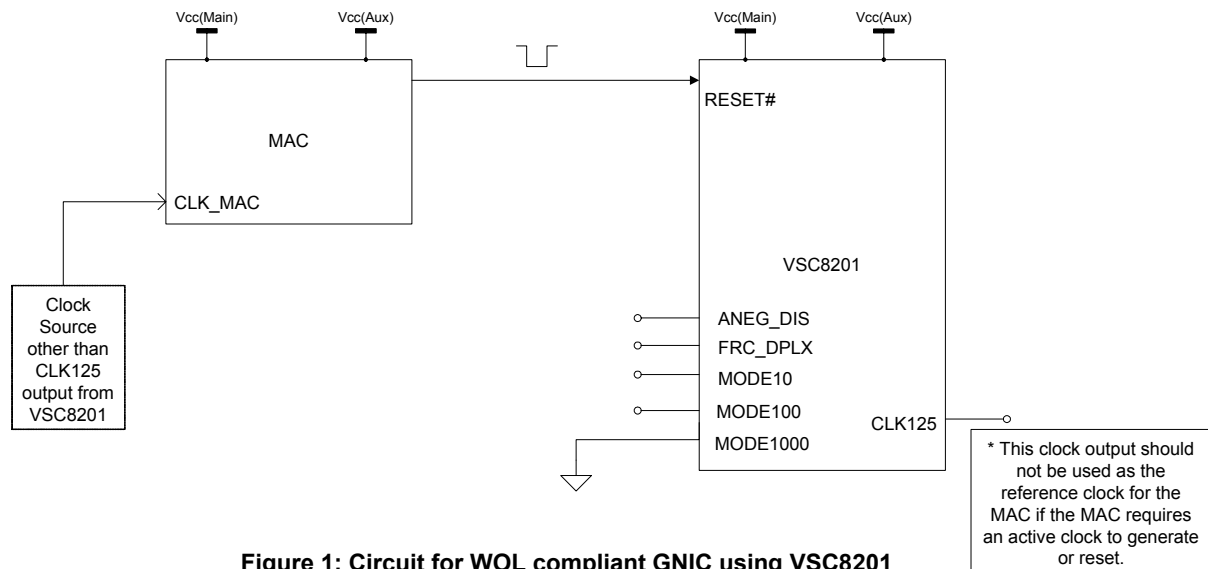

Figure 1: Circuit for WOL compliant GNIC using VSC8201
- Abnormal shutdown - In this case the main power Vcc (Main) is lost suddenly and driver does not configure the VSC8201 in 10/100BASE-T operating mode by writing to the MII registers of the VSC8201. It is assumed that on sudden loss of Vcc (Main) the MAC will reset the VSC8201 by driving a pulse on the RESET# pin of the VSC8201. Upon deassertion of RESET# the VSC8201 re-reads the hardware configuration pins, which should be set as shown in figure 1 below.